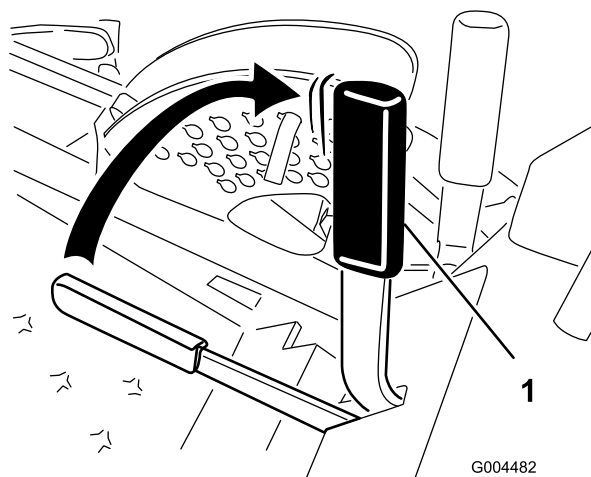

Figure 14
2. Pull up and back on the parking brake lever to set the parking brake (Figure 14). The parking brake lever should stay firmly in the engaged position.
Push forward and down on the parking brake lever to release the parking brake (Figure 14).